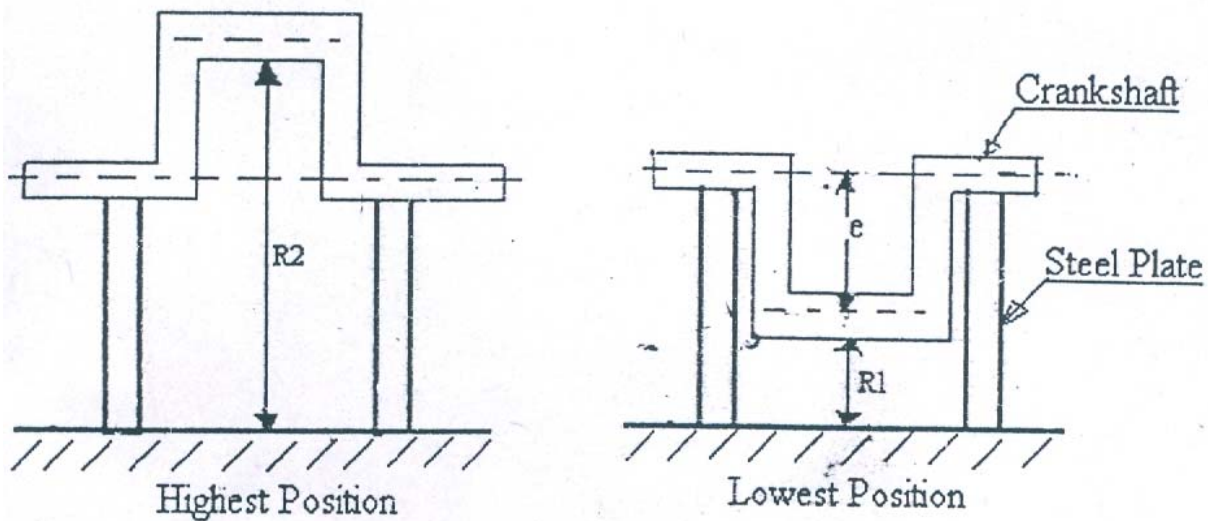

Fig. 3 Determination of Eccentricity of the crank shaft
- For crank shaft inspection (Ref. Fig. 3)